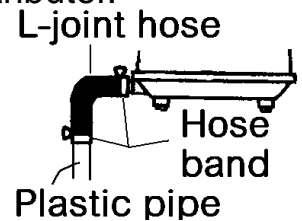

Fig.1
- Be sure to secure connection with a hose clamp (Ref.: Fig 1).